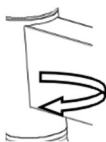

Figure 2 Adjustable feet of the table
- Adjustable feet for height adjustment are installed on the four legs of the table. Every time after moving, please make sure that the four adjustable feet are in full contact with the ground, otherwise you should rotate the adjustable feet to adjust.(Figure 2)